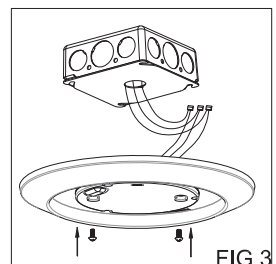

FIG.4
6. Align two holes in the fixture with Outlet box. Use screws to attach one to another. Do not over tighten. (FIG.4)
- This type of installation represents a 5 inch barrel (FIG.4)